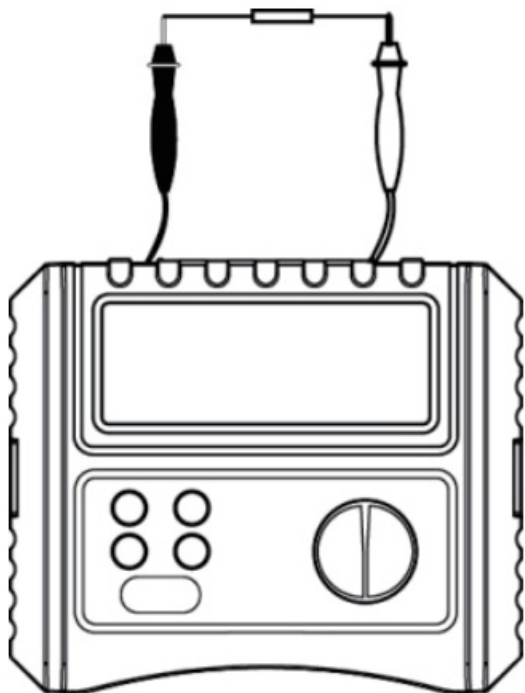

Figure 3
4. Turn the rotary switch to Ω position, then press TEST button to begin. Refer to Figure 3 for details.